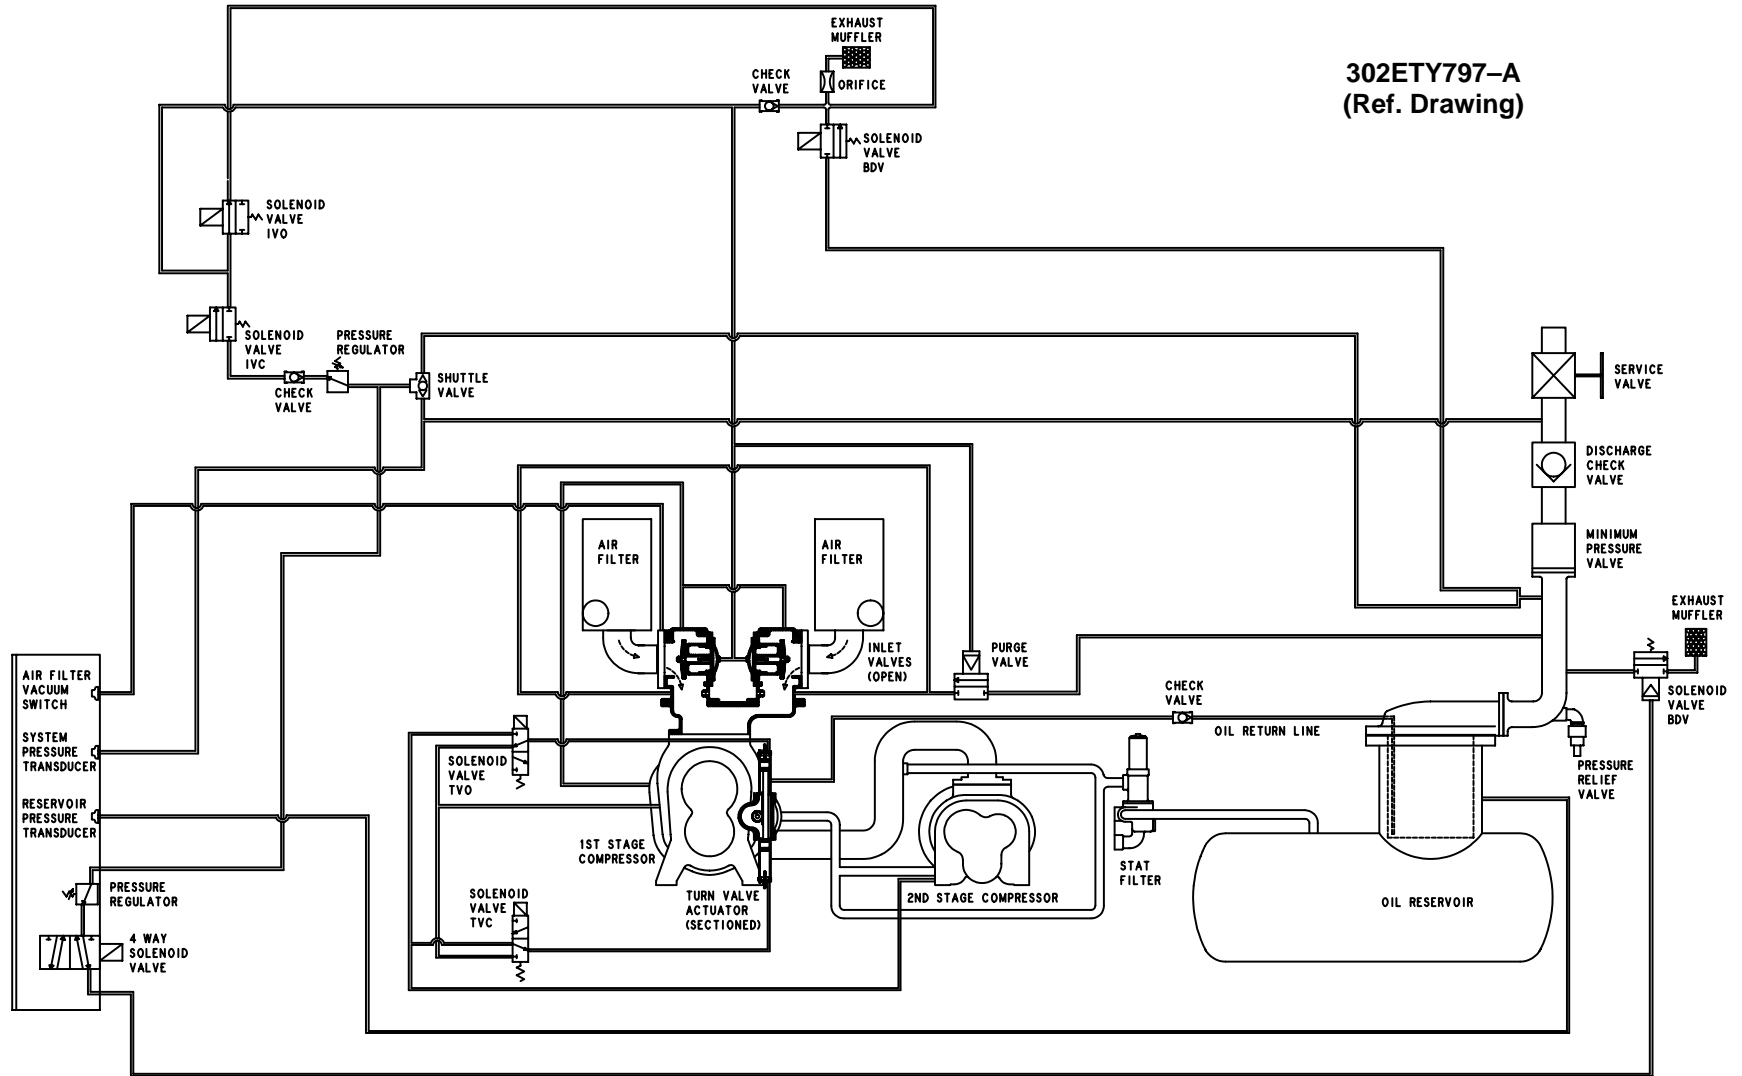

FIGURE 4-1 - SCHEMATIC TUBING DIAGRAM
**Inlet Valve** (FIGURE 4-1, page 21) – The Inlet valve restricts the inlet to control delivery and closes to unload the compressor. At shutdown, the inlet valve closes to prevent the back flow of air.
**Solenoid Valves IVC and IVO** (FIGURE 4-1, page 21) – These valves control position of the inlet valve in response to signals from the “AUTO SENTRY®”. With both valves de-energized, the normally open IVC valve allows control pressure to the inlet piston to close the valve. If IVC only is energized, the inlet valve is held in its current position. If both valves are energized, control pressure is relieved from the inlet piston to allow the valve to open.
**Pressure Regulator** (FIGURE 4-1, page 21) – The pressure regulator is used to supply a constant and low control pressure to prevent damage to the inlet valve from “slamming.” The regulator should be set for 25–30 psig.
**Purge Air Valve** (FIGURE 4-1, page 21) – The purge valve is a normally closed two-way air actuated valve that admits purge air from the final discharge manifold to the compressor to counteract the oil knock that occurs in oil-flooded rotary screw compressors when they are completely unloaded with pressure in the oil reservoir. This valve is controlled by the same control pressure which controls the inlet valve.
**Blowdown Valve** (FIGURE 4-1, page 21) – The blow-down valve is a two-way solenoid valve which is piped into the air/oil reservoir outlet ahead of the minimum pressure valve. When the solenoid is de-energized, the valve opens and the coolant system is blown down. When the solenoid is energized, the valve closes to allow the coolant system to pressurize. A control air